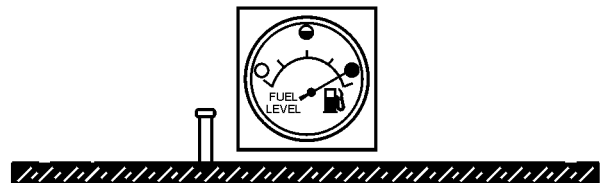

Figure 31. Full Fuel Tank
6. **NEVER overfill fuel tank** — It is important to read the fuel gauge when filling trailer fuel tank. **DO NOT** wait for fuel to rise in filler neck (Figure 31).